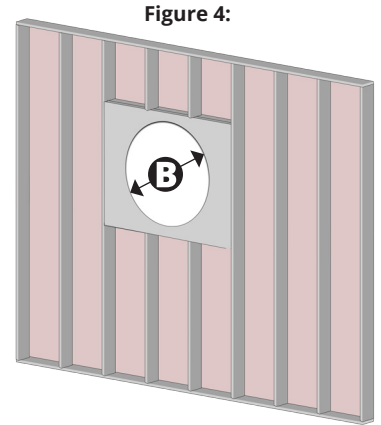

Figure 4:
7. Cut a circular hole in the plywood sheathing to accept the shroud of the unit being installed. (Fig. 4)